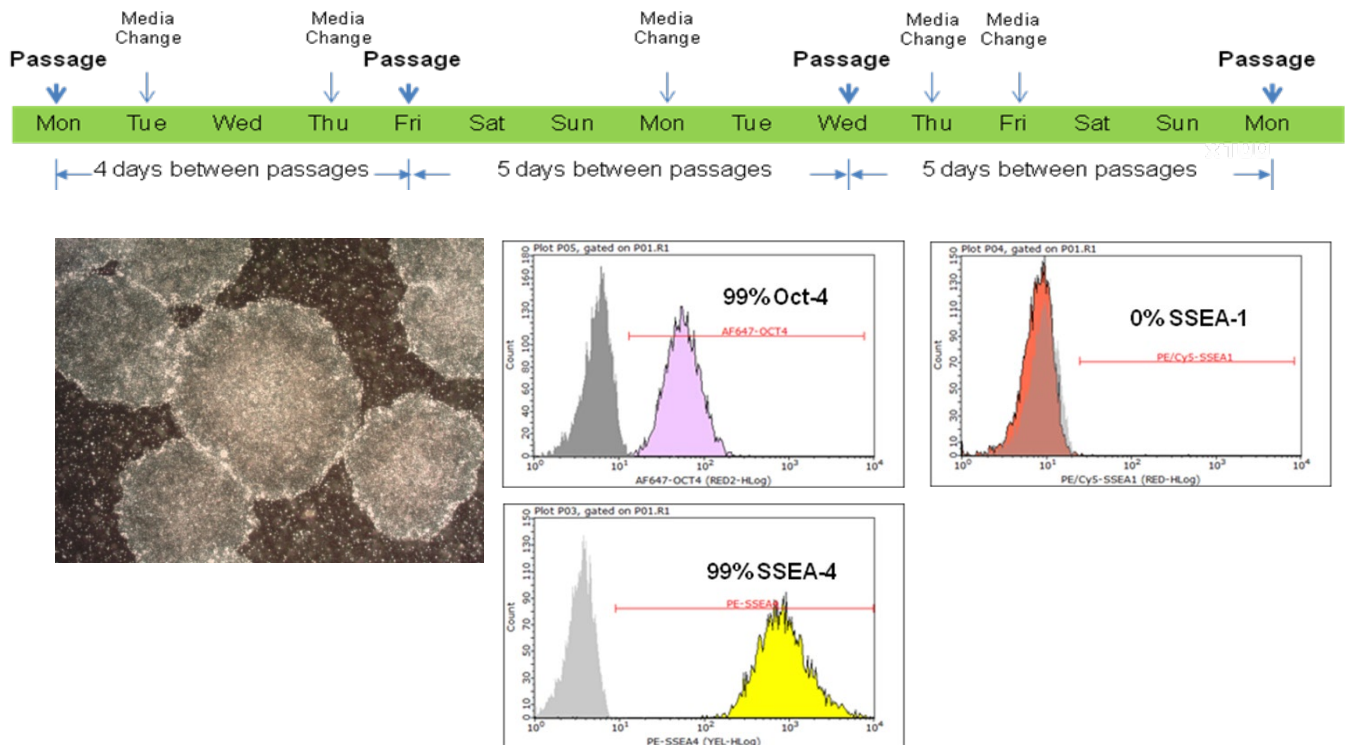

Figure 1: Every Other Day and Weekend Free Media Exchanges with PluriSTEM™.
23. Human ES and iPS cells cultured in PluriSTEM™ are ready to be passaged when the colonies are large with centers that are dense and phase bright compared to their edges. Colonies may also start to merge, covering 80 – 90% of the surface area (see Figure 1 and 2).